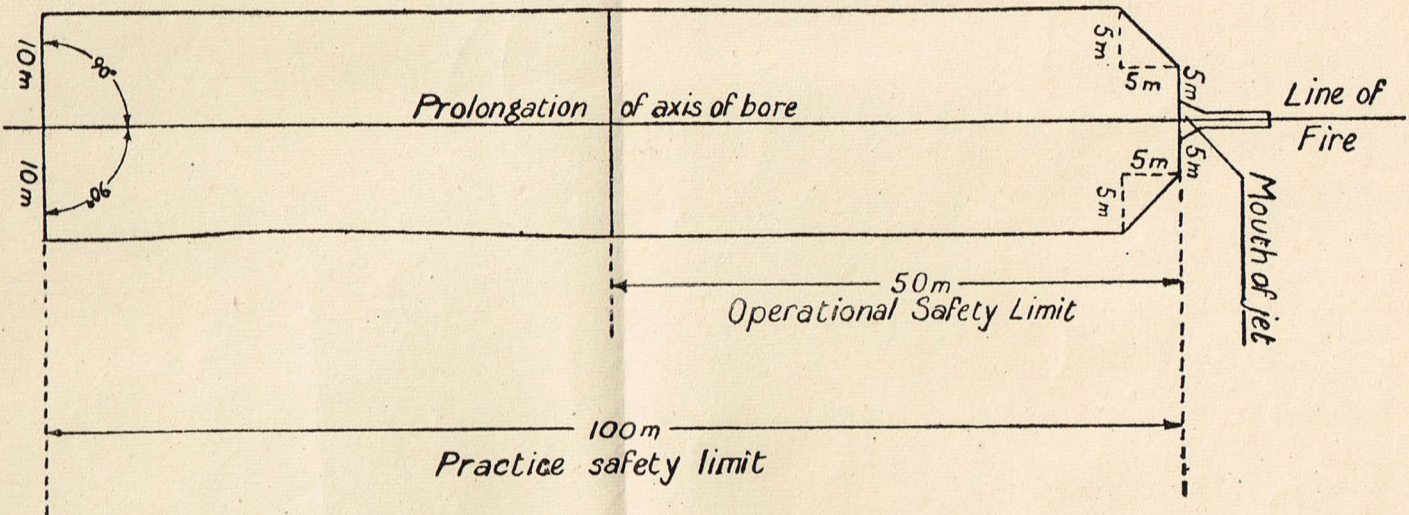

FIG. 27
26. Special safety precautions (Fig 27)
- (b) *For practice and operational firing* respectively, the areas outlined in Fig 27 to the side and rear of the mouth of the jet, must be avoided. The length of the danger area in rear of the jet is :—
20. Special safety precautions (Fig 27)